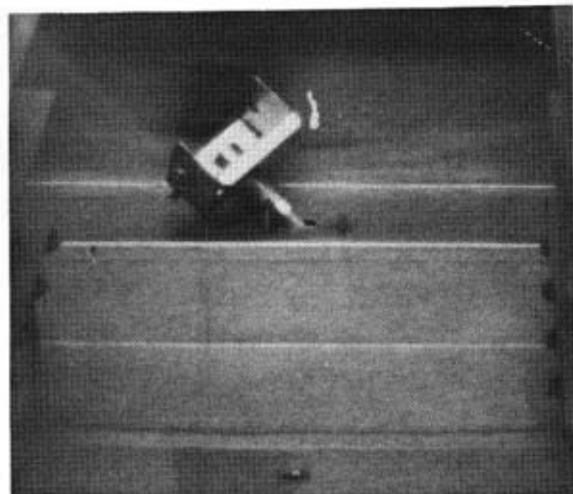

FIG. 10
2. Loosen the two (2) wing nuts securing float cover to float assembly. Remove float cover.
4. Remove the two (2) screws or nuts (depending on design) securing valve body to cabinet base.
5. **CAUTION:** Carefully lift float valve body upward until water line is visible (See Figure 10).